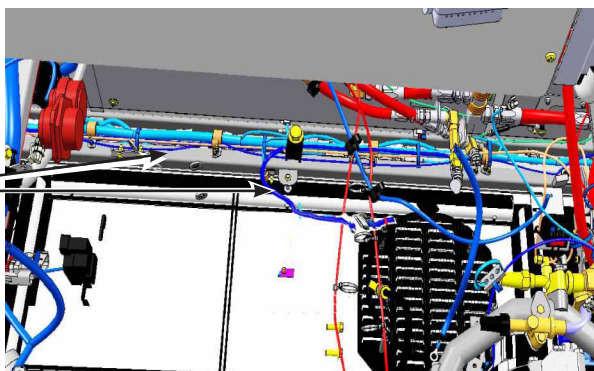

Figure 11 - Routing on Engine Door
- 1.17. Continue routing and affixing harness to the main engine harness until temperature sensor location is reached. See Figure 11,12, 15.